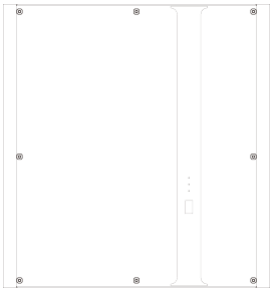

Figure 2.17 Re-cover the Upper Cover Plate
**Step 12** The wiring is completed, please re-cover the B3 upper cover plate and use the T20 double offset ring spanner to tightly lock the upper cover screw. The suggested torque is 2.8 N.m±10%. Then install the white plug, as shown in Figure 2.17.